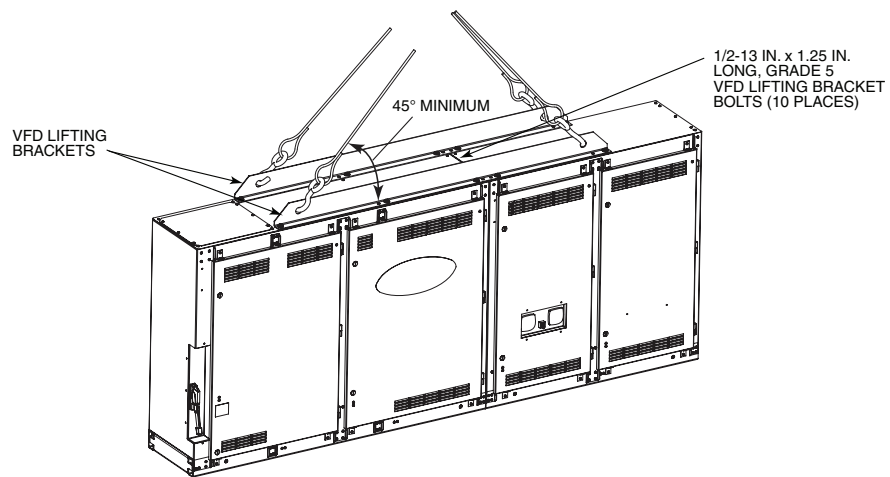
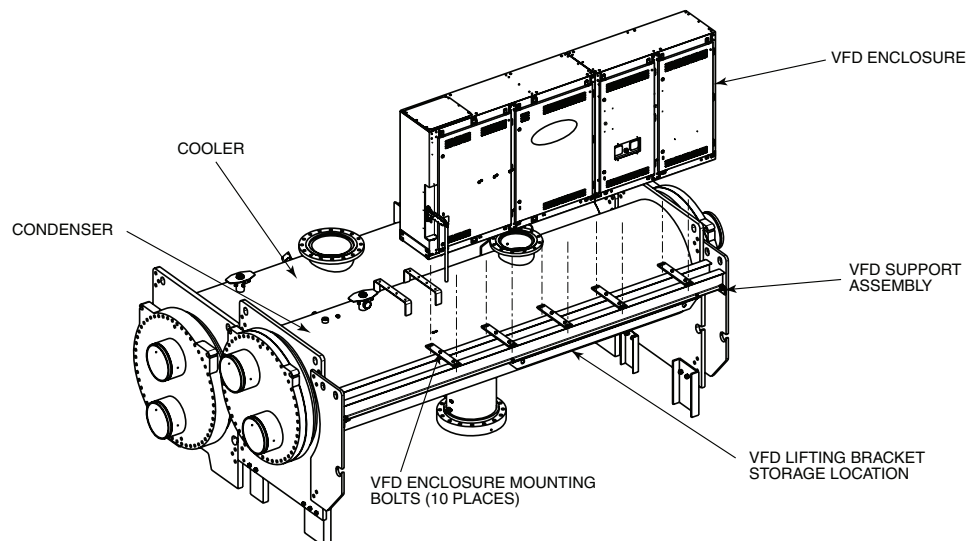

Fig. 25 — 900A or 1200A VFD Enclosure Lifting Points
Fig. 27 — 900A or 1200A VFD Enclosure Installation
2. Using an overhead or portable hoist (minimum 2-ton rated capacity), attach a free-fall chain to the sling secured drive. Take up any slack in the chain. See Fig. 25.
NOTE: If overhead space is limited following reinstallation of the VFD enclosure, the VFD enclosure lifting brackets (Fig. 25) may be removed from the top of the VFD and fastened to the bottom of the VFD support shelf (Fig. 27).